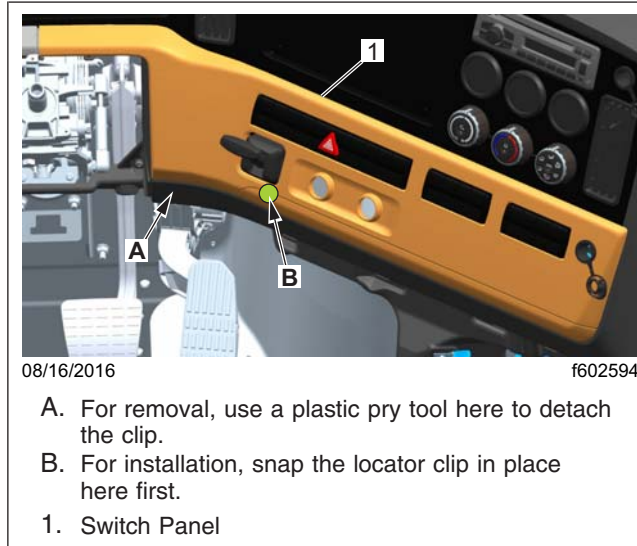

Fig. 3, Lower B-Panel Fascia Removal
5.3 Remove the lower B-panel fascia (switch panel), and disconnect the wiring as needed. See Fig. 3.